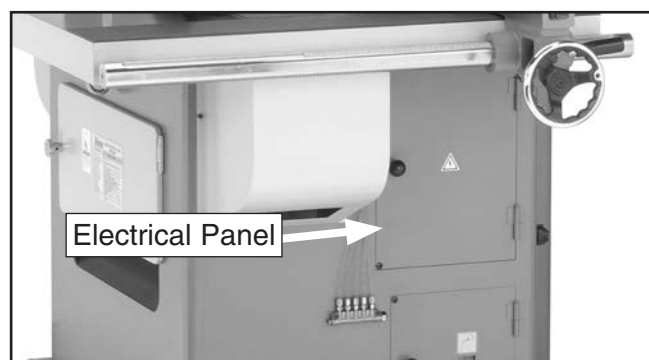

Figure 2. Location of electrical panel.
2. Open the electrical panel (see **Figure 2**).